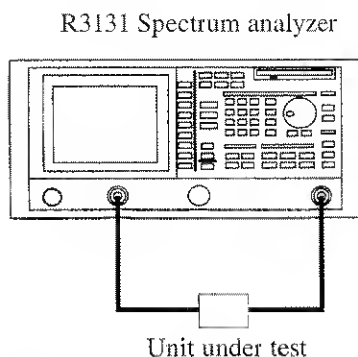

Figure 2-79 Connecting the Unit under Test
10. Connect the unit under test between TG OUTPUT and RF INPUT1 as shown in Figure 2-79.